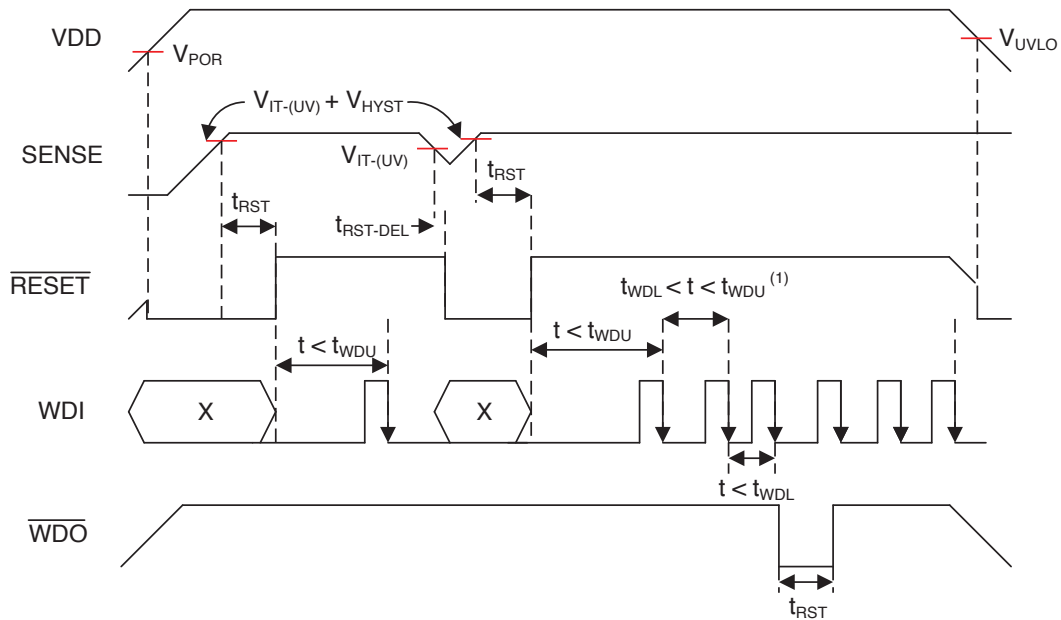

Figure 4-1. TPS3850 timing diagram.
(2) 0 refers to  $V_{SET} \leq V_{IL}$ , 1 refers to  $V_{SET} \geq V_{IH}$ .
(3) If this watchdog ratio is used, then  $t_{WDL(max)}$  can overlap  $t_{WDU(min)}$ .
**Figure 4-1** shows that when WDI is received before TWDL (t < TWDL), the WDO triggers a fault.
**TWDU** – Window watchdog upper boundary. For voltage supervisors with a window watchdog function, in addition to the lower boundary there is an upper boundary limit on the watchdog timeout. If the WDI input is received after this TWDU period, the WDO will trigger a fault event. **Figure 4-1** shows that when WDI is received before TWDU and after TWDL (TWDL < t < TWDU), the WDO does not trigger a fault as it is within the window period